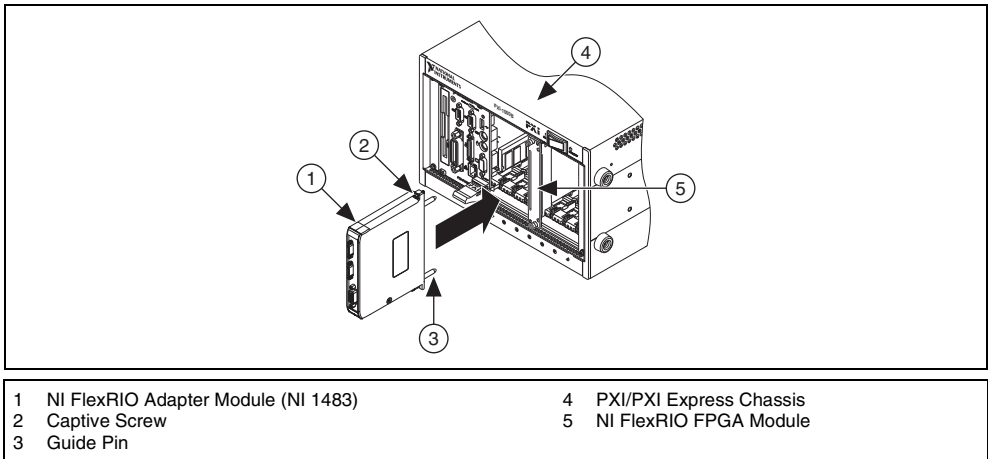

Figure 4. Installing the NI 1483
1. Gently insert the guide pins and the high-density card edge of the NI 1483 into the corresponding connectors of the NI FlexRIO FPGA module, as shown in Figure 4. The connection may be tight, but do not force the adapter module into place.